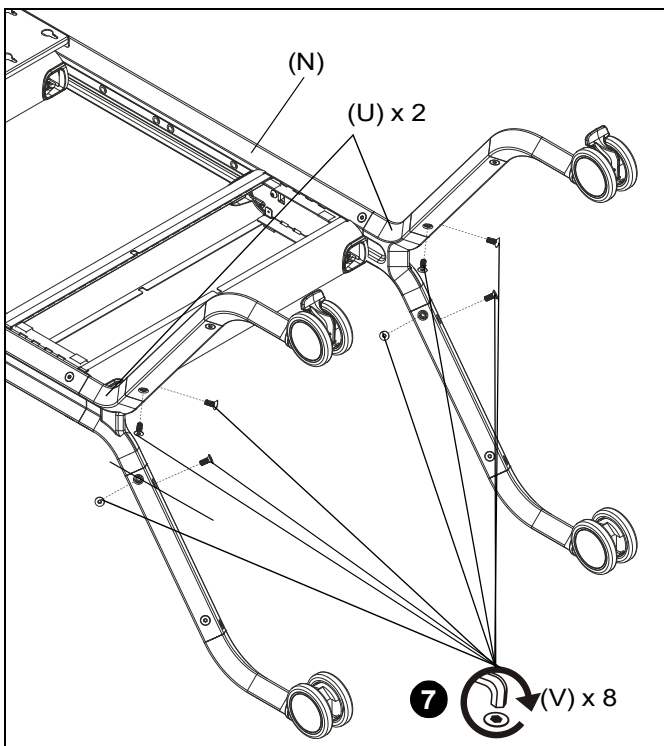

Figure 5
7. Use two M8 x 16mm flat head cap screws (V) to secure each leg (P and Q) to coupler assembly (U). (See Figure 5)